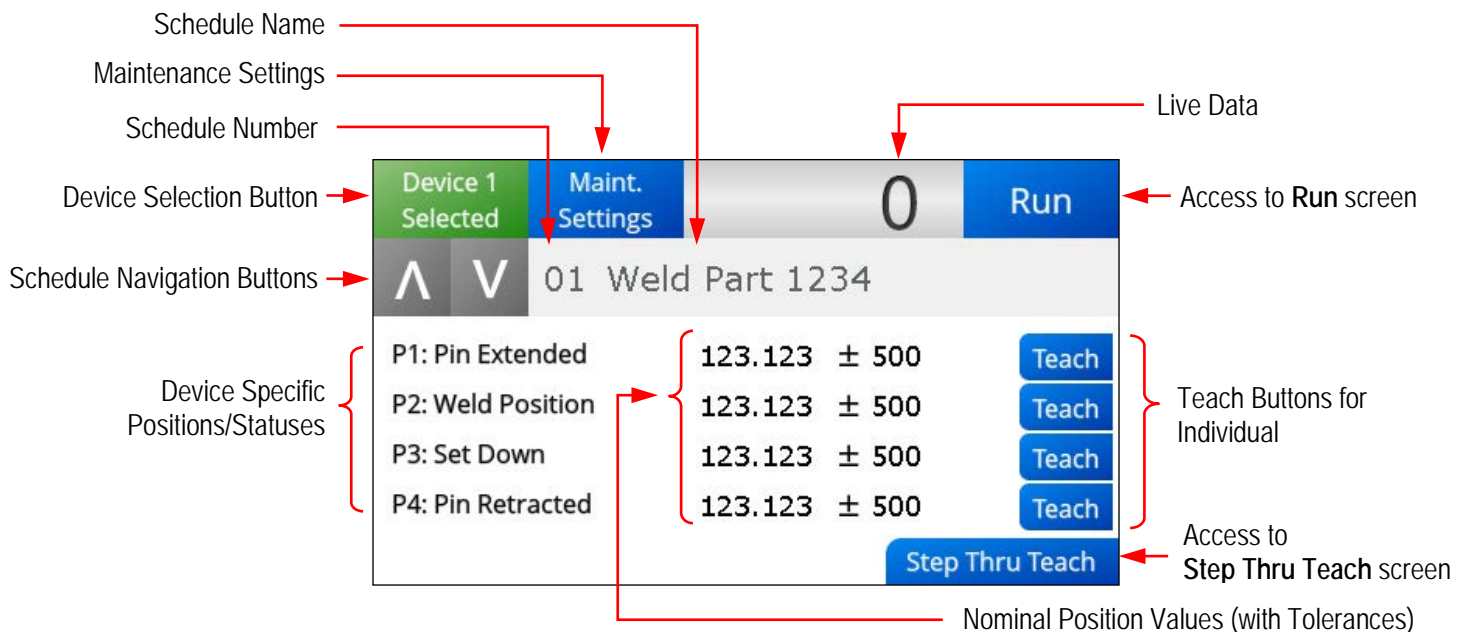

Figure 13 – Teach Screen
The following areas can be identified on the Teach screen (see Figure 13 above):
- Device 1 Selected** – Allows the user to select between the two devices connected to the MicroView, with the intent of teaching schedules for the selected device. In Figure 13 above, for example, Device 1 is a VeriFast™ LVDT. The user can now select or define a schedule for the current device. Within the current schedule, the user can program the P1, P2, P3, and P4 positions/statuses listed on the screen. See the bullets that follow.
- **Nominal** (position value) – This field indicates the already taught value (if any) for the currently selected position/status (P1, P2, P3, or P4). (**Note:** This value corresponds to the *Nominal Position Values* shown in Figure 13 – Teach Screen on page 32).